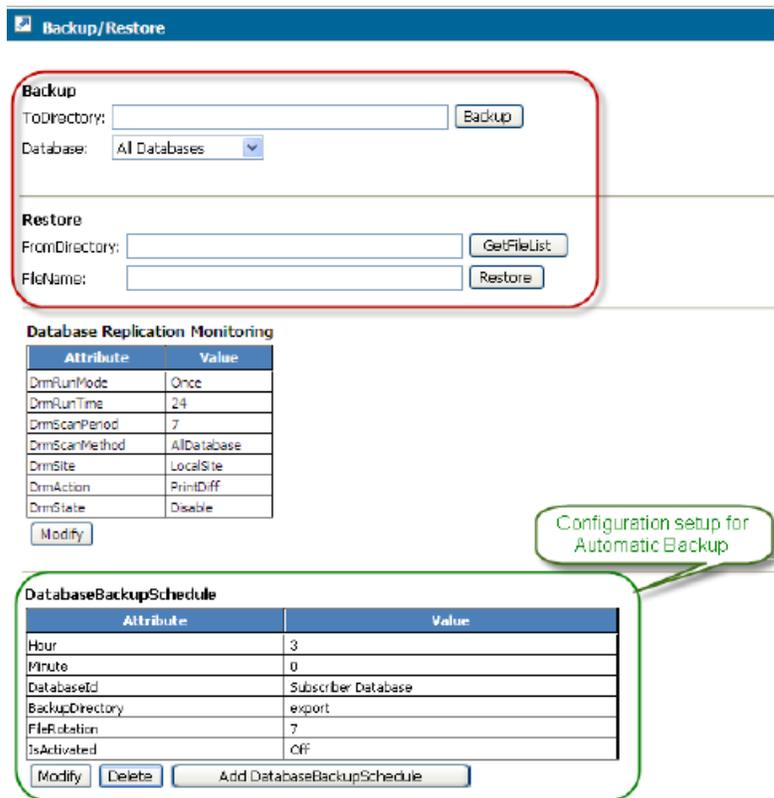

Figure 10: Backup/Restore Window
An automatic backup can be set and activated through the WebCI, with the DatabaseBackupSchedule table in the Database Configuration window (see Figure 10: Backup/Restore Window). By default, the automatic backup only backs up all the subscriber profiles data. However, when setting the schedule of the automatic backup, the Network Operator can optionally set the IncludeConfiguration parameter to '1'. This will set the automatic backup to back up all the configuration data in addition to all the subscriber profiles data.
The Restore view is used to restore database information onto the active System Controller (SC). Refer to Figure 10: Backup/Restore Window. A listing of the backup files can be obtained by specifying the directory name in the FromDirectory field. To restore the database, specify the file name in the FileName field.